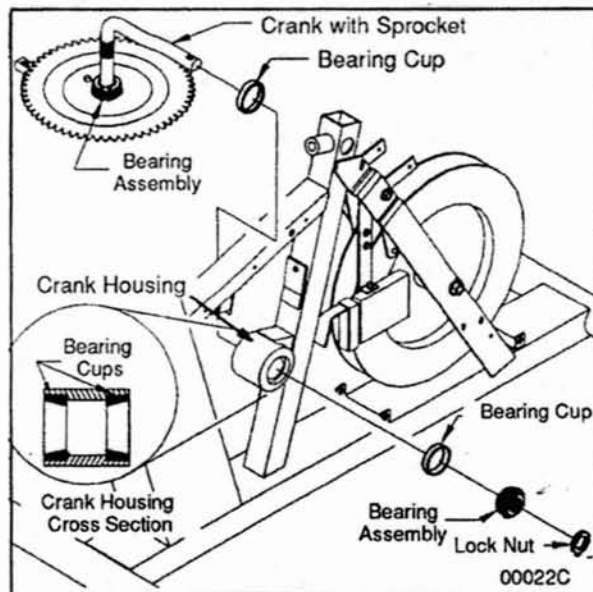

Figure 5.22 Crank with Sprocket and Crank Bearing.
4. With an adjustable (or 1 1/4") wrench, remove the lock nut located on the left crank leg by turning the nut clockwise (CW). Slide nut off the crank. See Figure 5.22.
5. Use the adjustable (or 1 1/4") wrench to remove the left bearing assembly by turning it clockwise (CW). Pass the bearing assembly over the left crank leg and remove.